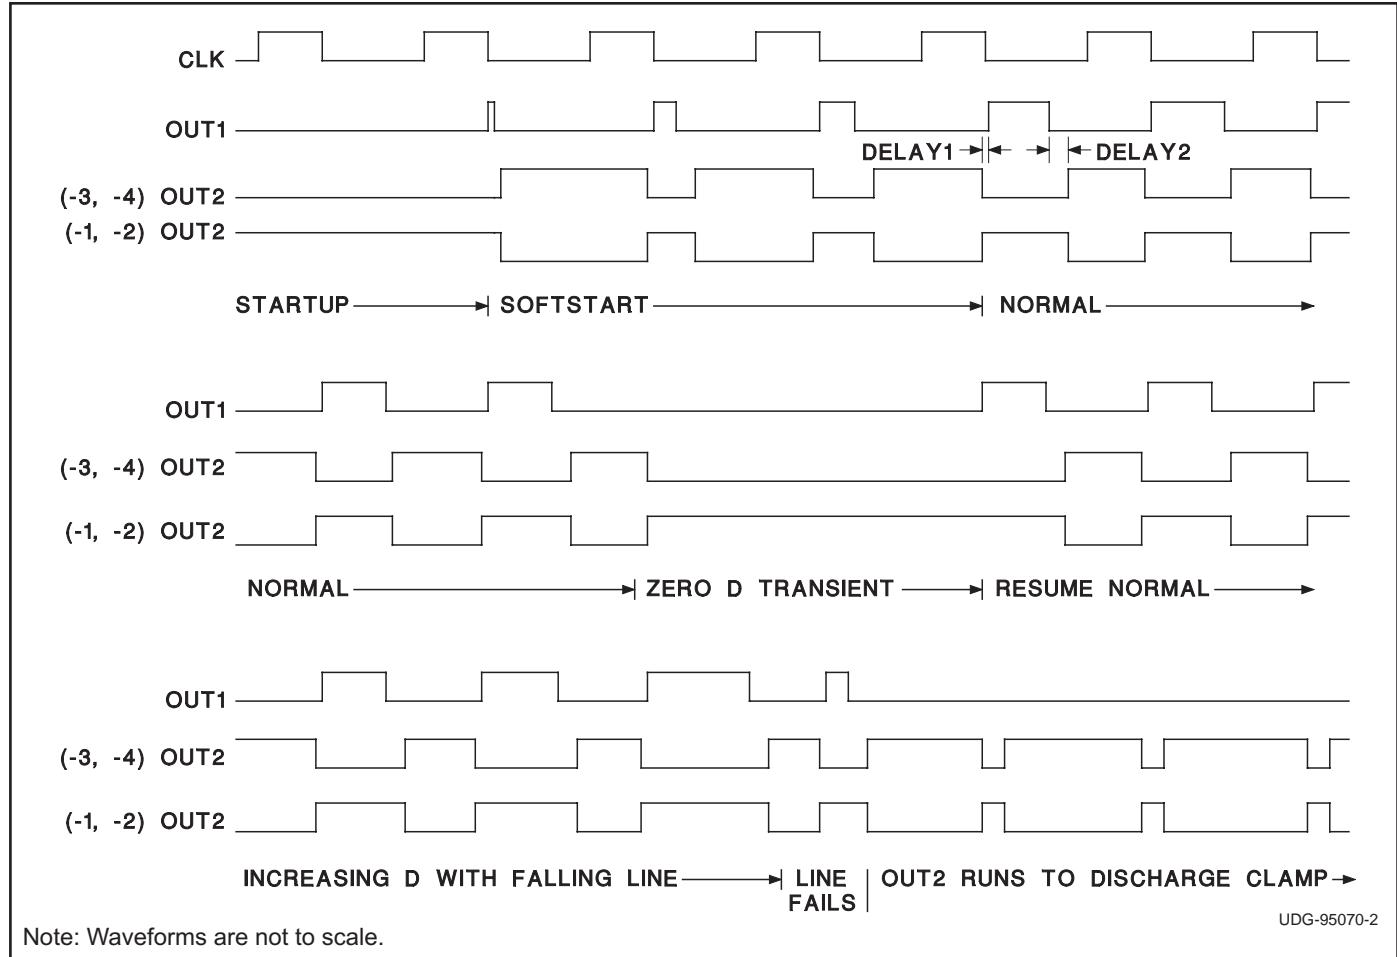
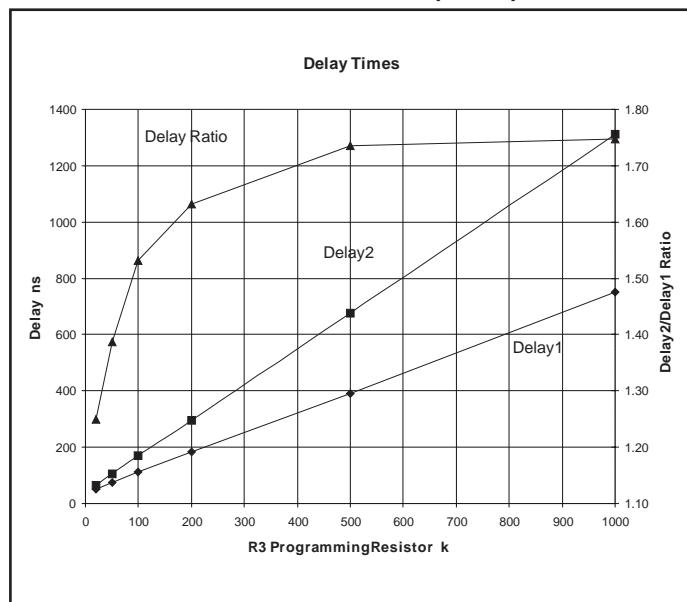

Figure 1. Output time relationships.
Figure 2. Delay times.
**DELAY:** A resistor from DELAY to GND programs the nonoverlap delay between OUT1 and OUT2. The delay times, Delay1 and Delay2, are shown in Figure 1 and are as follows:
Delay2 is designed to be larger than Delay1 by a ratio shown in Figure 2.
The soft start pin provides an effective means to start the IC in a controlled manner. An internal current of 20 A begins charging a capacitor connected to SS once the startup conditions listed above have been met. The voltage on SS effectively controls maximum duty cycle on OUT1 during the charging period. OUT2 is also controlled during this period (see Figure 1). Negation of any of the startup conditions causes SS to be immediately discharged. Internal circuitry ensures full discharge of SS (to 0.3V) before allowing charging to begin again, provided all the startup conditions are again met.
a single pin is used to program the delays between OUT1 and OUT2 on both sets of edges. Figure 1 shows the relationships between the outputs. Figure 2 gives the ratio between the two delays. During the transition from main to auxiliary switch, the delay is not very critical for ZVS turn-on. For the first half of OUT1 off-time, the body diode of the auxiliary switch conducts and OUT2 can be turned on any time. The transition from auxiliary to main switch is more critical. Energy stored in the parasitic inductance(s) at the end of the OUT2 pulse is used to discharge the parasitic capacitance across the main switch during the delay time. The delay (Delay 1) should be optimally programmed at 1/4 the resonant period determined by parasitic capacitance and the resonant inductor (transformer leakage and/or magnetizing inductances, depending on the topology). However, depending on other circuit parasitics, the resonant behavior can change, and in some cases, ZVS turn-on may not be obtainable. It can be shown that the optimum delay time is independent of operating conditions for a specific circuit and should be determined specifically for each circuit.